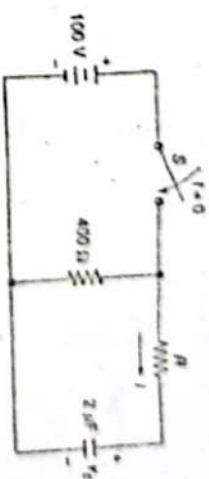

Fig. 12
Q.1. In the circuit of Fig. 12, the switch has been closed for a long time. Find the expression for v_C as the switch is thrown open. What is the rate of energy consumption in the 400Ω resistance at $t = 0^+$?